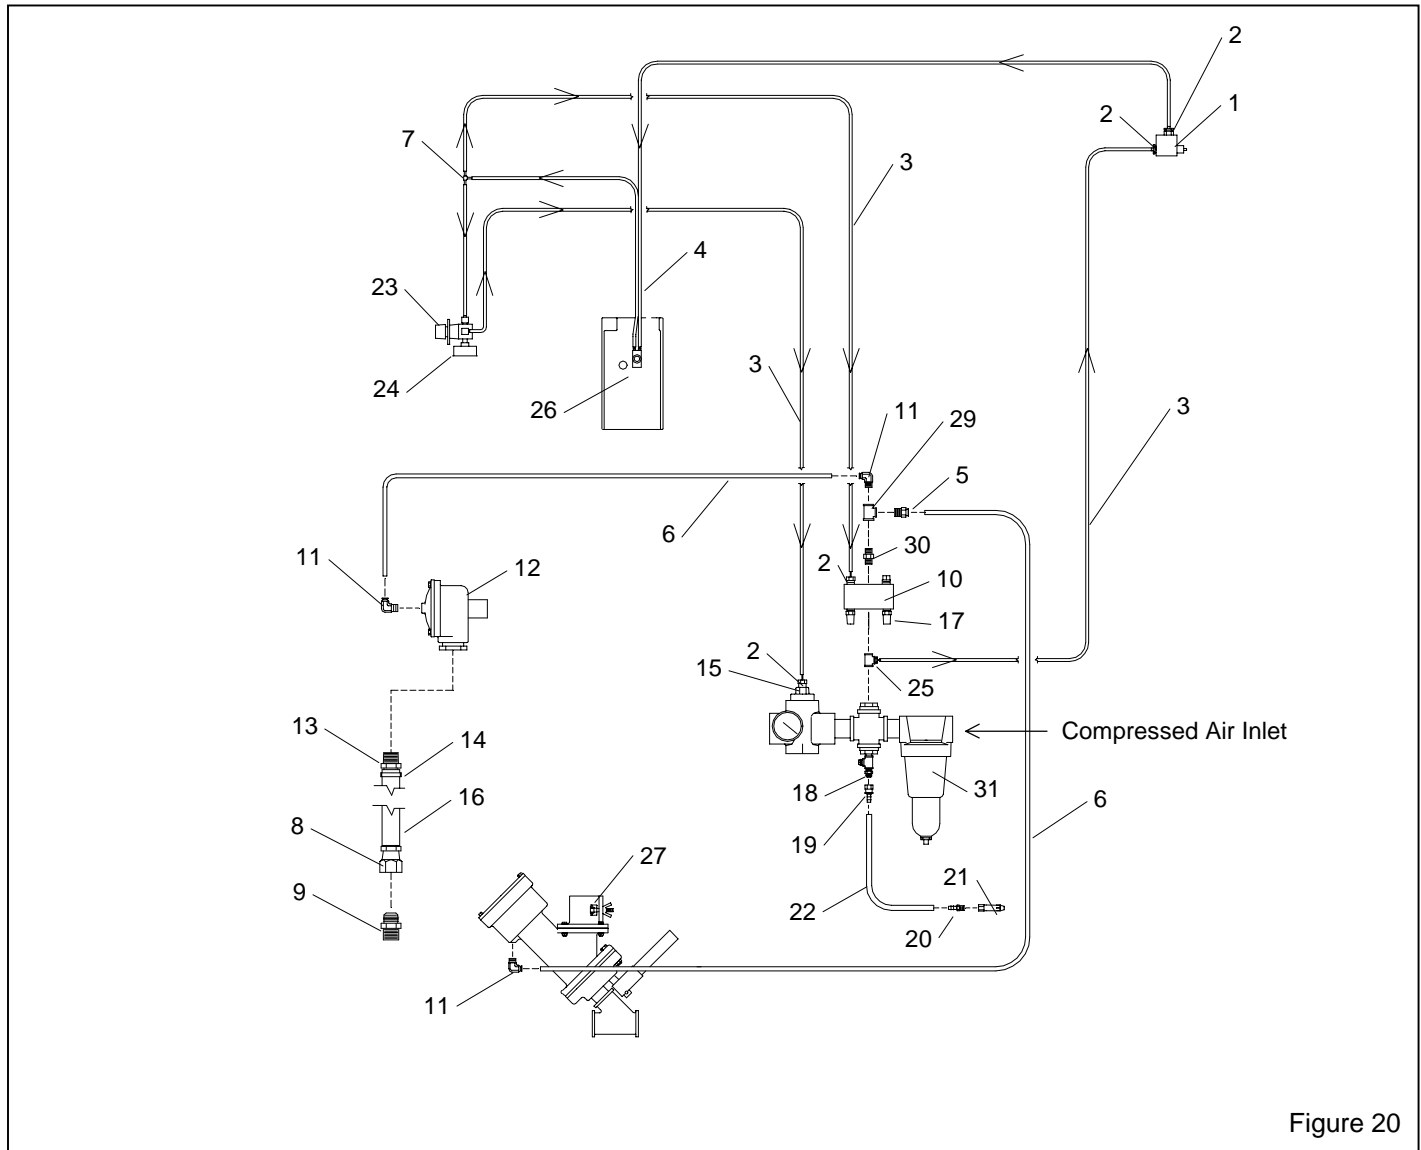

Figure 20
9.3 Plumbing Assembly, Figure 20